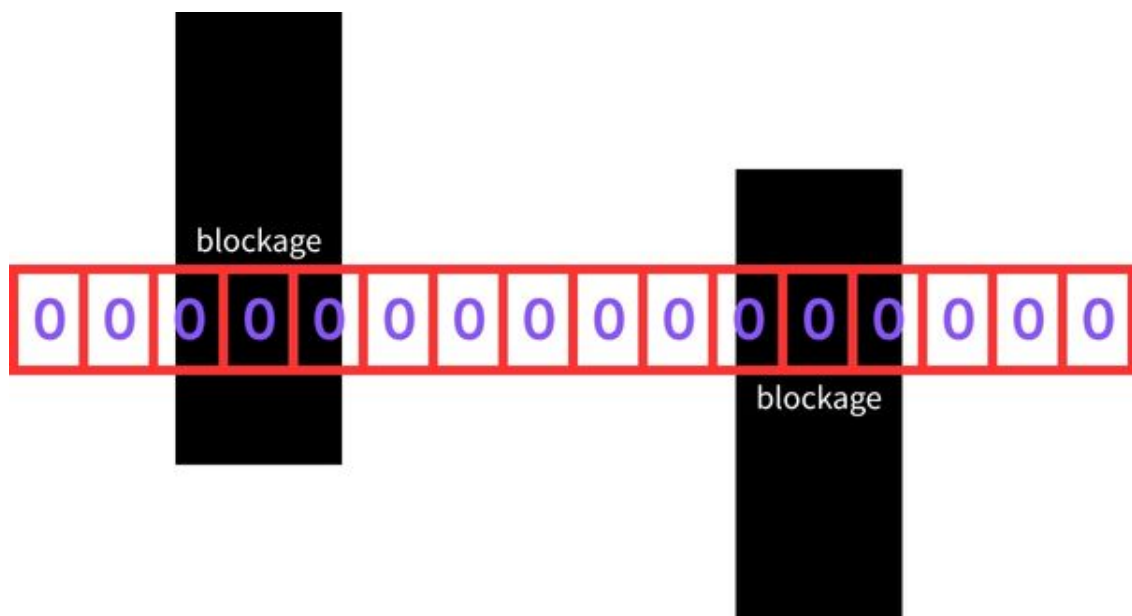
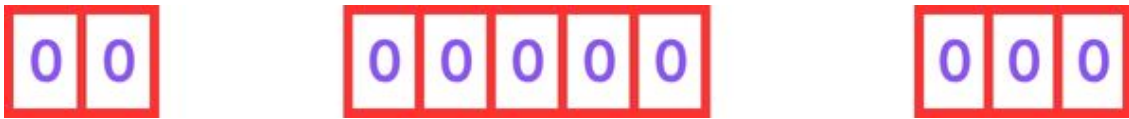

Figure 4.1: Original row and blockage
Figure 4.3: Done subrow
**Figure 4.1** shown the example of original row with the blockage, first I assign all the **site** of the row to 0.
After that check each row's site, if have **continuous** with 0 then construct a **subrow**. **Figure 4.3** show the final subrow of example from **Figure 4.1**.